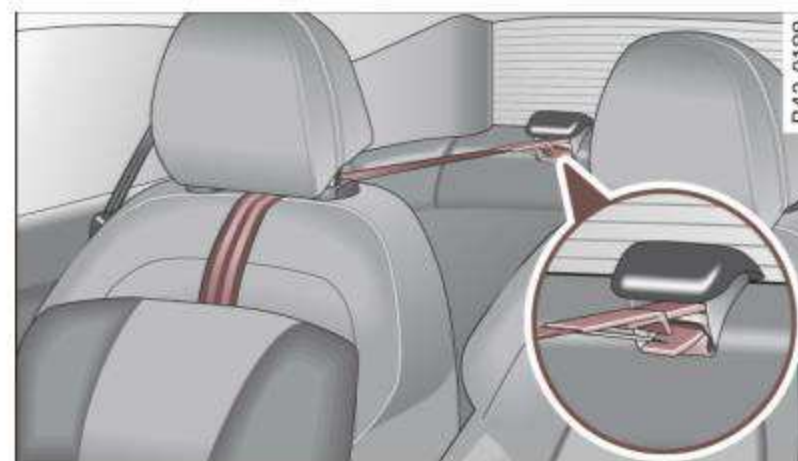

Fig. 109 Tether strap: proper routing and mounting
- Guide the upper tether strap **under** the head restraint ⇒ fig. 109 (raise the head restraint if necessary).